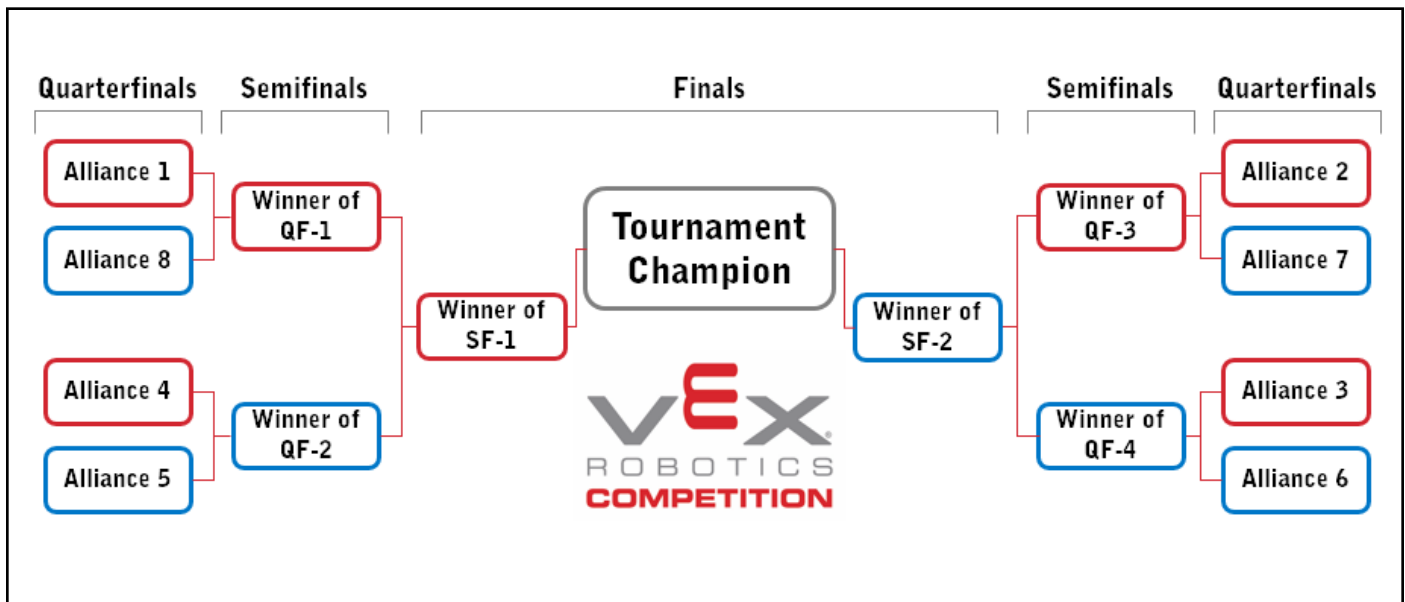

Figure T19-2: An 8-Alliance bracket
Thus, an eight (8) *Alliance* bracket would run as shown in Figure T19-2: